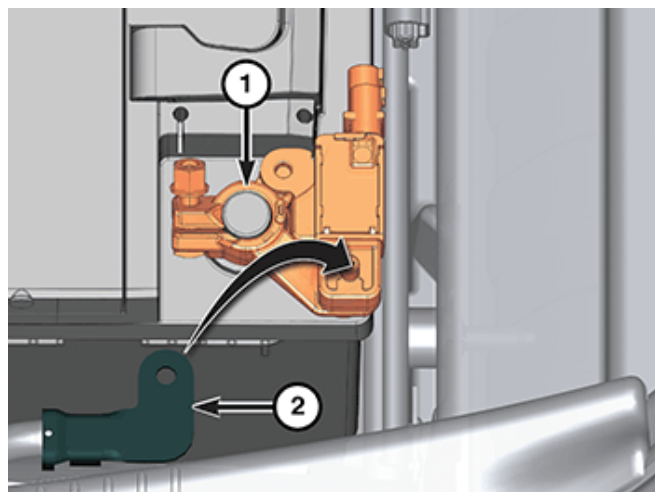

Figure 4 – Negative Cable Eyelet
4. Remove the battery negative cable eyelet (2) from the IBS M8 stud (Figure 4).
- c. Connect the battery negative cable eyelet (2) to the IBS M8 stud (Figure 4).